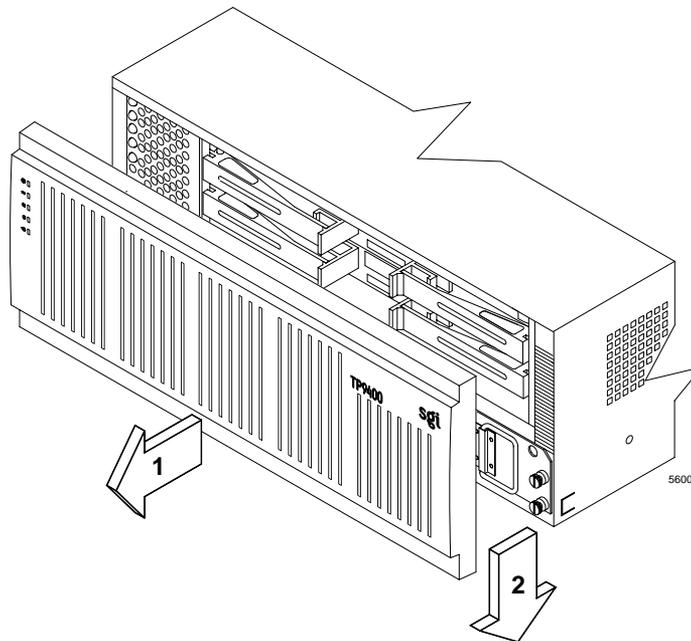

Figure 3-1 Removing the Front Cover of the Controller Enclosure
To access the controller enclosure components, cables, indicator lights, and switches, you must remove the front cover (Figure 3-1).
1. To view all of the indicators, remove the front cover of the controller enclosure (Figure 3-1 on page 29) and remove the rear access panel on the rack.
4. If all indicators show a “normal status,” replace the front cover (Figure 3-1 on page 29). If the indicator lights show a fault, run the storage management software (TPSSM7) to diagnose and repair the problem.